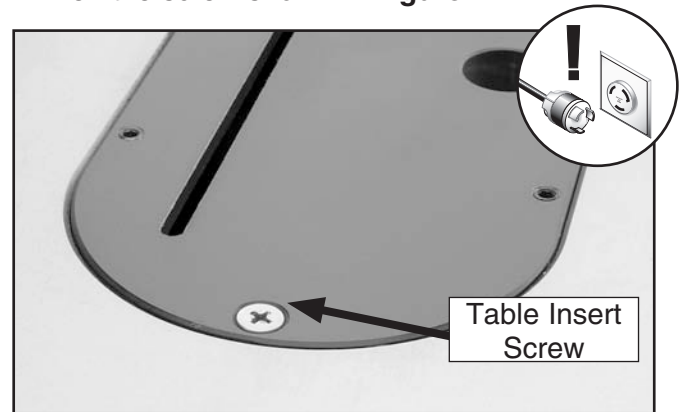

Figure 24. Table insert screw.
2. Place the table insert into the table and tighten the screw shown in **Figure 24**.